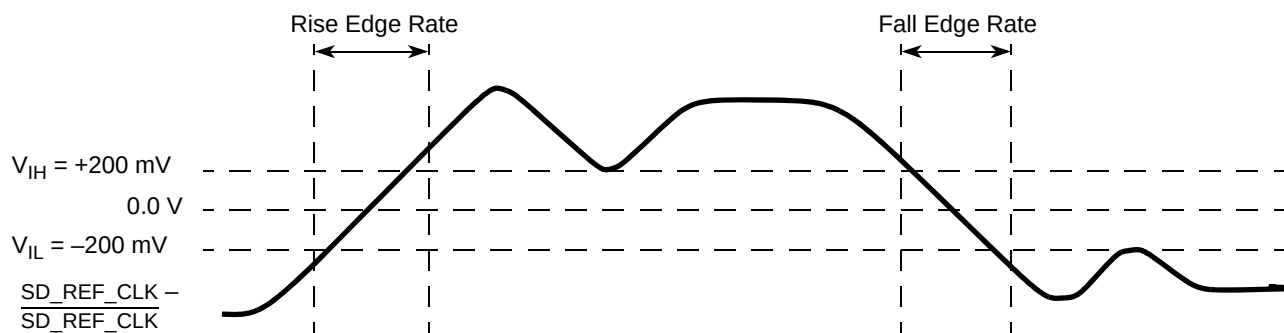

Figure 52. Differential Measurement Points for Rise and Fall Time
1. The differential waveform is constructed by subtracting the inverting signal ($\overline{\text{SDn_TX}}$, for example) from the non-inverting signal (SDn_TX , for example) within a differential pair. There is only one signal trace curve in a differential waveform. The voltage represented in the differential waveform is not referenced to ground. Refer to Figure 52 as an example for differential waveform.
3. Measured from -200 mV to +200 mV on the differential waveform (derived from $\overline{SDn_REF_CLK}$ minus SDn_REF_CLK). The signal must be monotonic through the measurement region for rise and fall time. The 400 mV measurement window is centered on the differential zero crossing. See Figure 52.